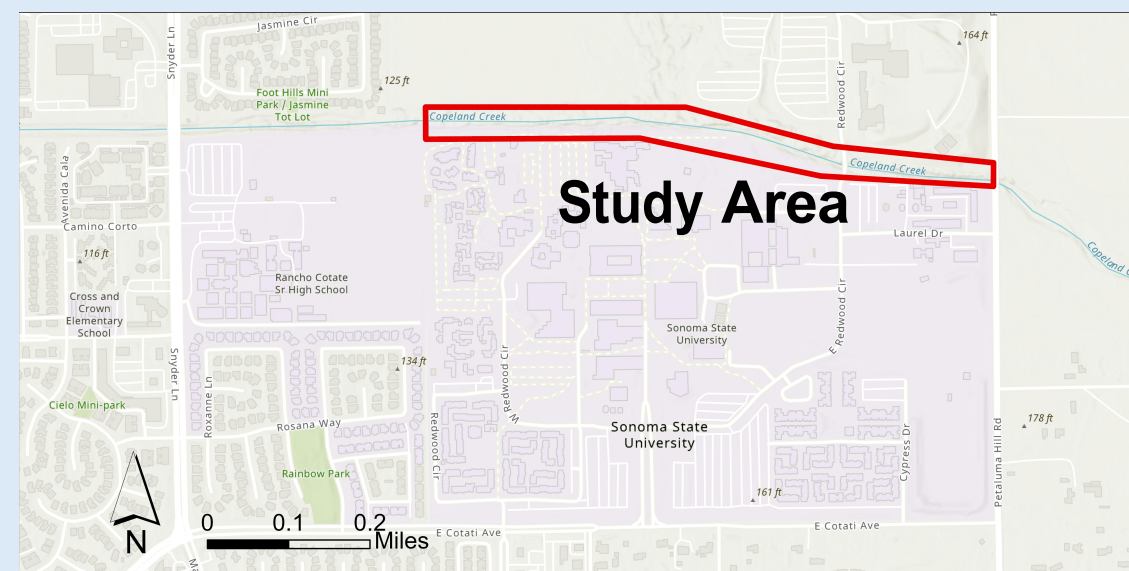

Fig. 1: The Copeland Creek study area and Sonoma State Campus
- Trees above 2 m were segmented across the study area (Figs. 1 & 7)